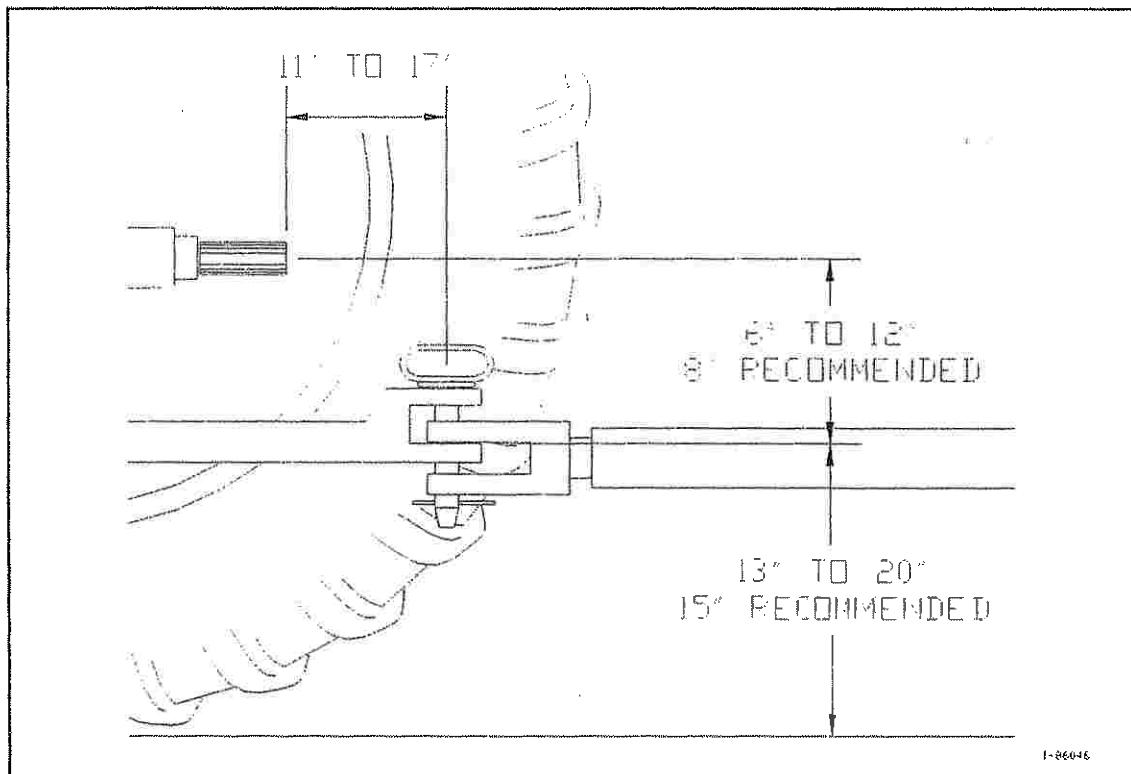

Figure 2A - Specifications for Connecting the Spreader/Tractor Hitch
The spreader hitch is designed to work with a standardized tractor hitch. To connect the spreader hitch to the tractor hitch, refer to Figure 2A and adhere to the following guidelines:
- Adjust the drawbar so that it is 13 to 20 inches above the ground as shown in Figure 2A.
- Extend or shorten the tractor hitch to obtain the horizontal distance from the end of the tractor power take-off (PTO) shaft to the center of the hitch pin hole (as shown in Figure 2A).